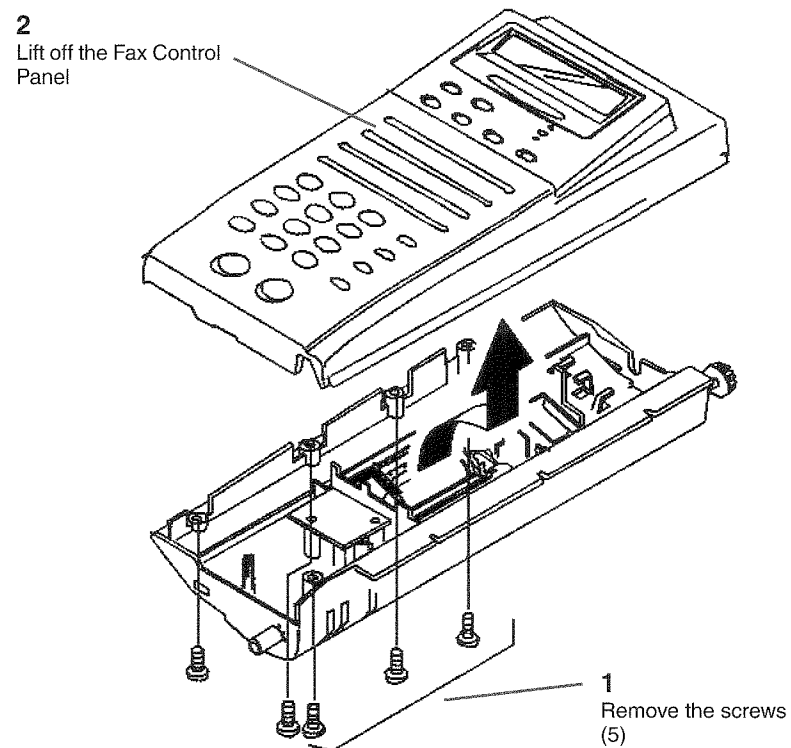

Figure 4 Removing the Fax Control Panel
4. (Figure 4): Remove the Fax Control Panel.